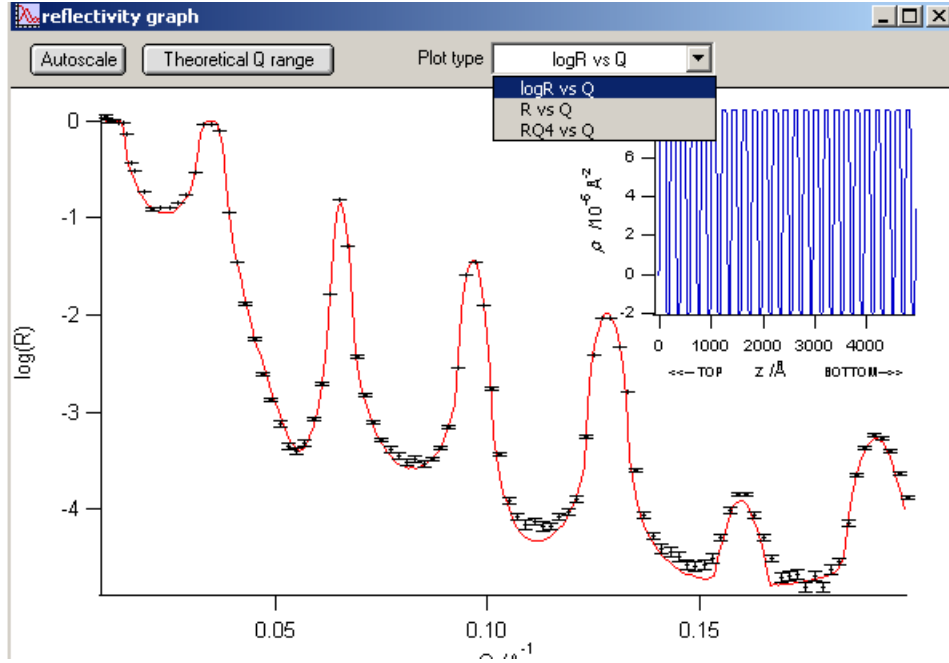

Figure 3: The reflectivity graph, showing a Ti/Ni multilayer
- **NUMBER OF LAYERS** : how many layers there are in your model. Layer 1 is closest to the superstrate, layer n is closest to the subphase (refer to Figure 3). You can have as many layers as you like. To increase the number of layers, change this value.